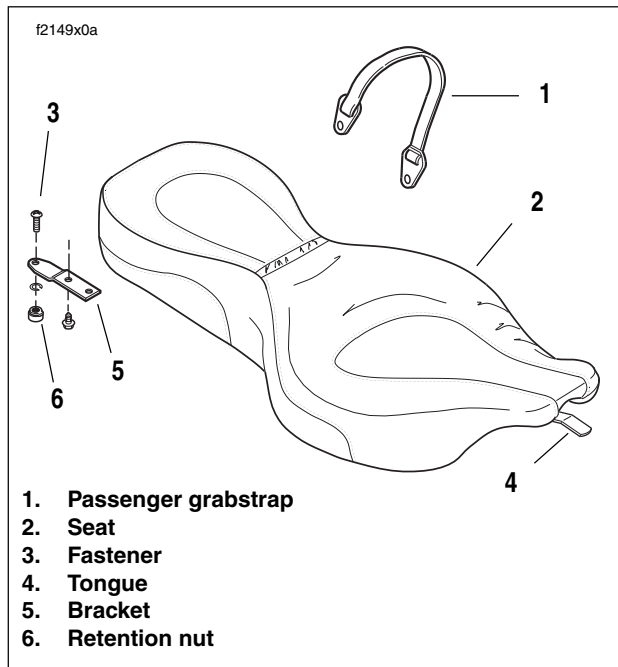

Figure 2-27. Seat Components
3. See Figure 2-27. Remove fastener with flat washer holding one side of passenger grabstrap.
1. See Figure 2-27. Set seat on frame and slide seat forward until tongue engages slot in frame backbone.